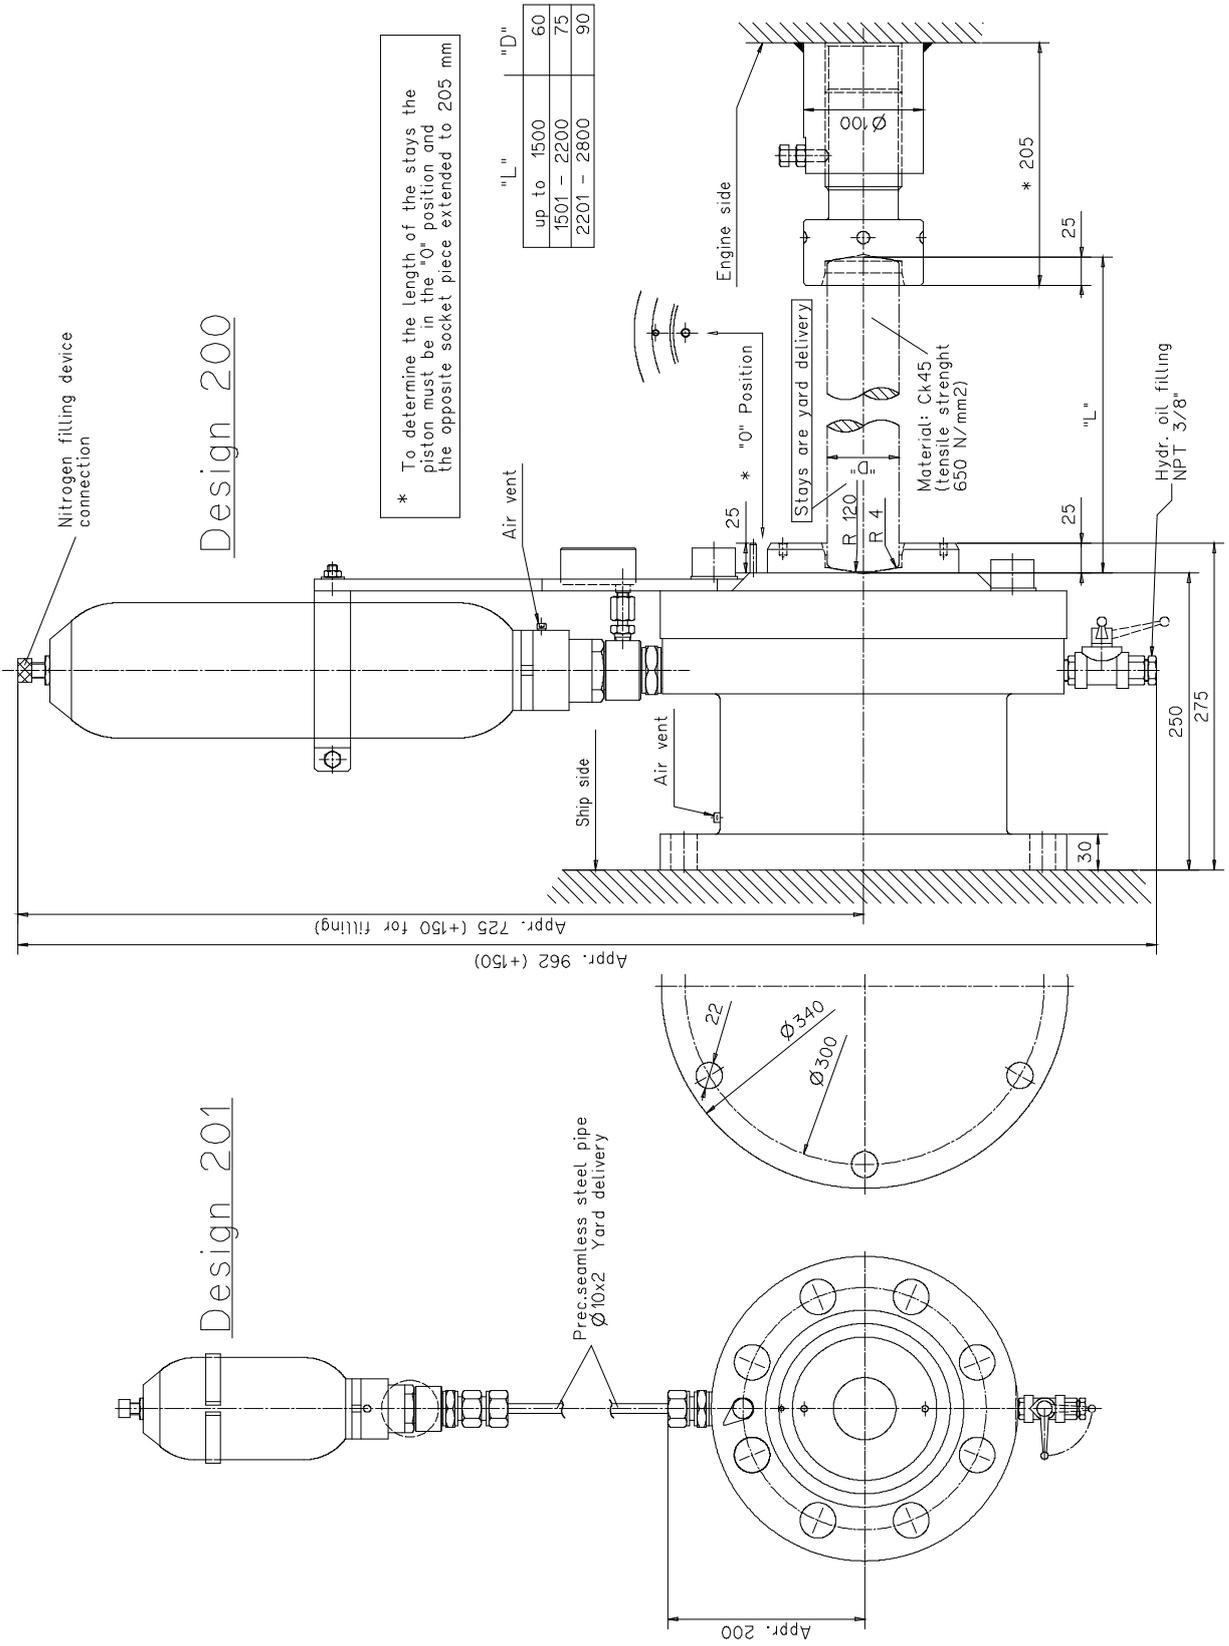
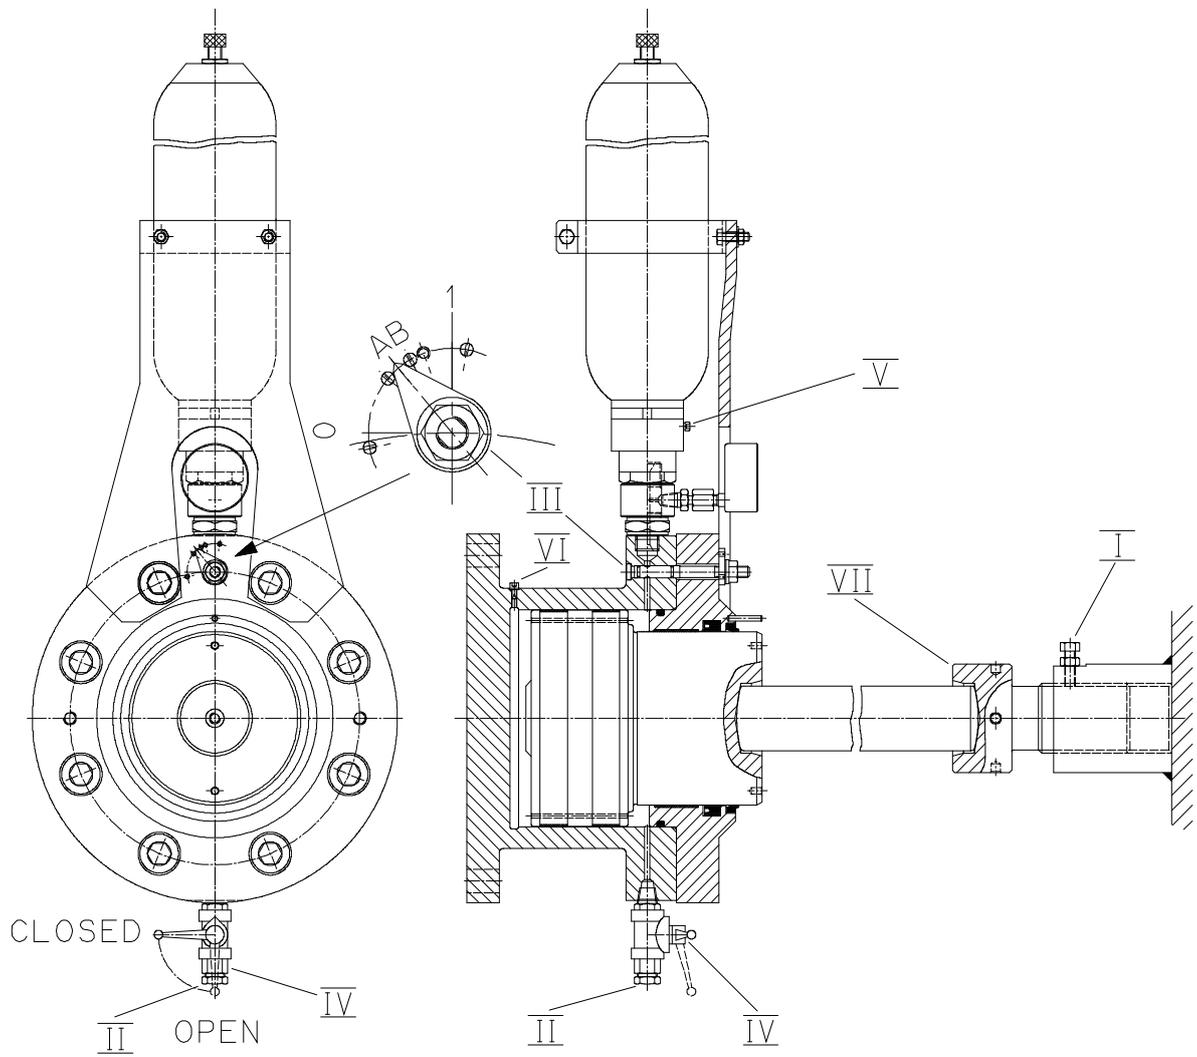

Figure 1: Hydraulic lateral device assembly parts
Figure 2: Hydraulic cylinder detail view
The hydraulic lateral fixation device mainly consists of (refer to figure 1 and figure 2):
Transverse vibrations of the engine cause rapid pressure fluctuations in the hydraulic cylinder. Thereby the unit behaves like a strong spring. By using the throttling valve (pos. III in figure 2), the spring rate can be adjusted such that the rapid pressure fluctuations are practically filtered off and do not continue into the hydro accumulator. The hydraulic cylinder nevertheless adjusts itself to the slow deformations of the ship's hull.
The hydraulic cylinders are to be bolted to the reinforced attachment points on the ship's structure. The adjusting screws are welded on the engine at the position shown on the relevant arrangement drawing from the engine builder (DG9715, ENGINE STAYS). The stay's length 'L' shown on figure 1 is to be determined by the shipyard and the related diameter 'D' has to be taken from the table on the stays arrangement drawing (DG9715, ENGINE STAYS).
Commissioning of the hydraulic cylinders should be carried out as follows shortly before the sea trial (refer to figure 2):
The adjusting screw is to be set as shown in figure 2 (axially: piston face and indicator pin to be on same plane; radially: pin and holes in line). Set bolt pos. I to be secured.
- Piston is in '0' position according to figure 2.
The position of the piston relative to the cylinder is to be checked when the ship is fully loaded. Should it occur that the piston is almost touching the bottom of the cylinder (this situation is not permitted, but it will happen when the piston in reference to position '0' is pulled 15 mm further into the cylinder), then the hydraulic lateral fixation device is to be shortened by about 7 mm using the adjusting screw (pos. VII in figure 2).
*1) Piston in position '0' (see figure 2): $Po_{max} = Po + 10 \text{ bar}$